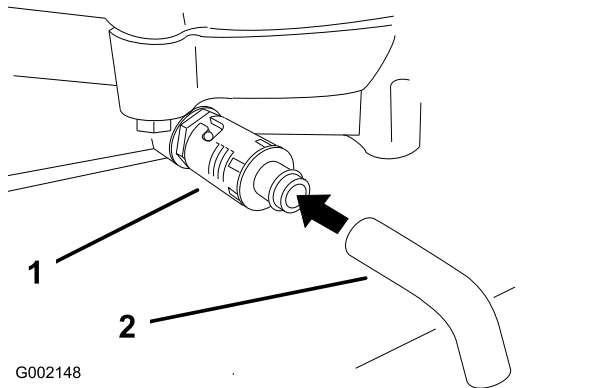

Figure 25
- Place a pan below the drain. Rotate the oil drain valve to allow the oil to drain (Figure 25).